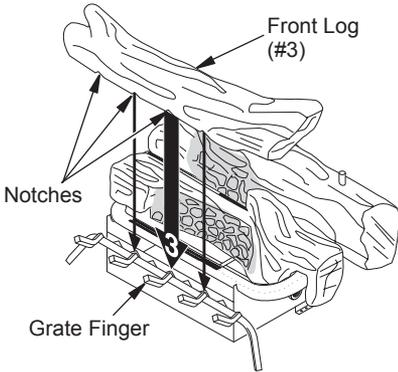

Figure 27 - Installing Front Log (#3)
3. Locate notches in bottom of front log (#3). Place front log on grate fingers. Make sure notches of front log line up with grate fingers (see Figure 27, page 18).